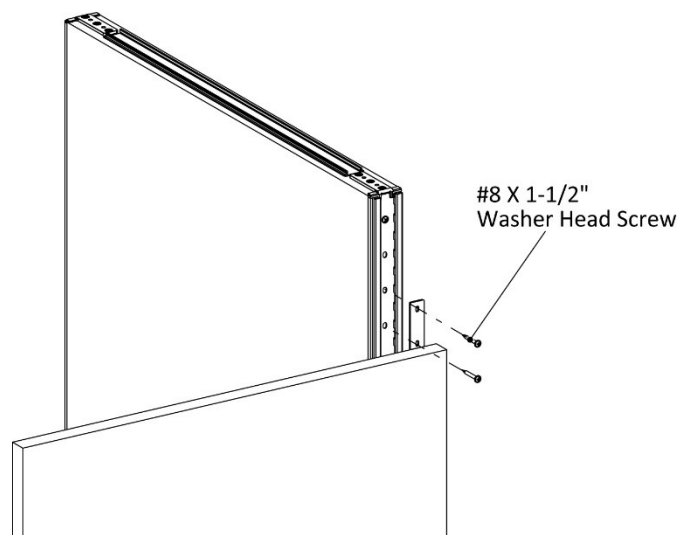

Figure 2
- Drive two #8 x 1-1/2" Washer Head Screws through the holes in gallery panel intermediate bracket into the standard panel, (Figure 2).